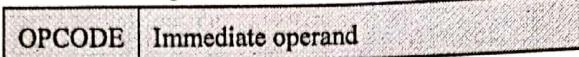

Fig. 3-Q. 6(b) : Instruction encoded with an immediate operand
- In this case the operand is in the instruction itself. It is said to be immediate addressing mode as the operand is in the immediate next location of the OPCODE. Fig. 3-Q. 6(b) shows format of instruction encoded with immediate operand.